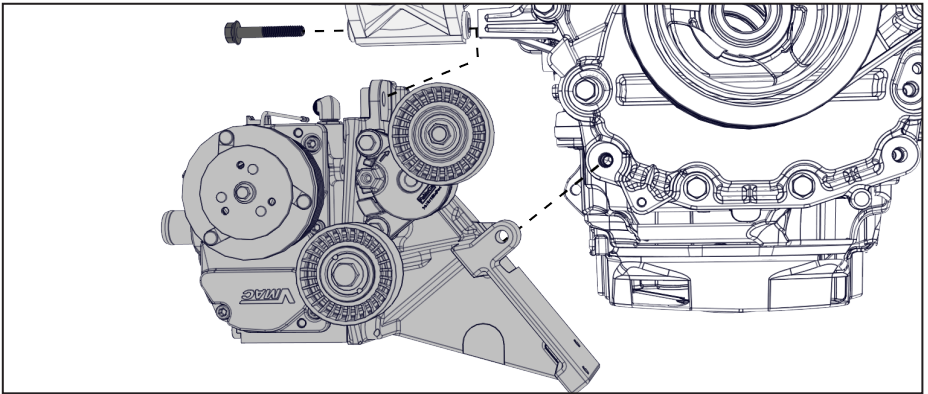

Figure 21 — Installing the main bracket
- Withdraw the bottom A/C compressor bolt and while holding the A/C compressor away from its engine mounting points, insert the VMAC main bracket between the A/C compressor and the engine (Figure 21).